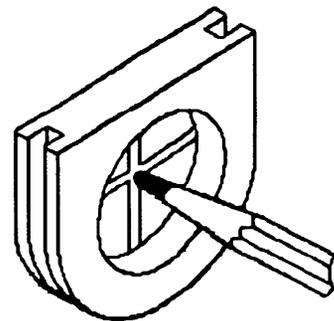

Fig. 2—Piercing grommet with a pencil
CAUTION: Do not slit grommet with a knife, use a pointed object such as a pen or pencil (refer to Figure 2).
4.08 Punch hole in I/W entrance grommet (right side) and slide grommet over I/W before connecting leads. Refer to Figure 2.